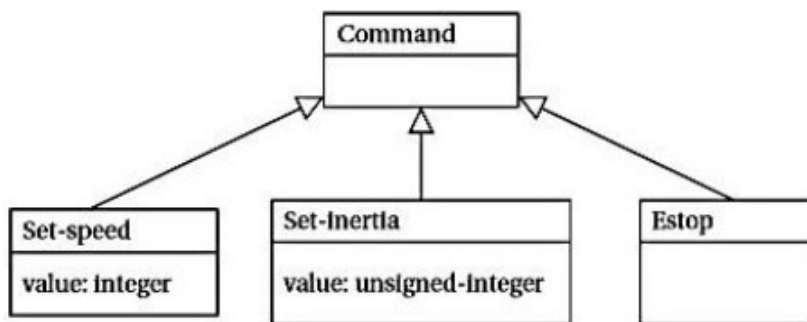

Fig 1.5.2 Class diagram for the train controller messages.
2. Train-board components as shown in Figure 1.5.2.